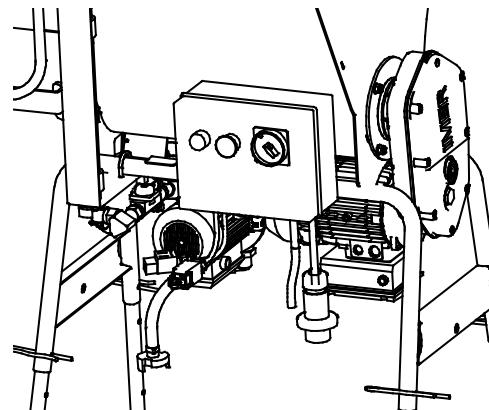

fig.5
9.1 ELECTRICAL CONNECTION (see fig.5)
Before connecting the mixer to the electrical mains, ensure that all safety devices are fitted and are in perfect condition, and check in particular that the hopper grid is secured in place, that the extension is in good condition and that the plugs and sockets are not wet. Connect the mixer socket on the electrical panel to the mains (fig.5).